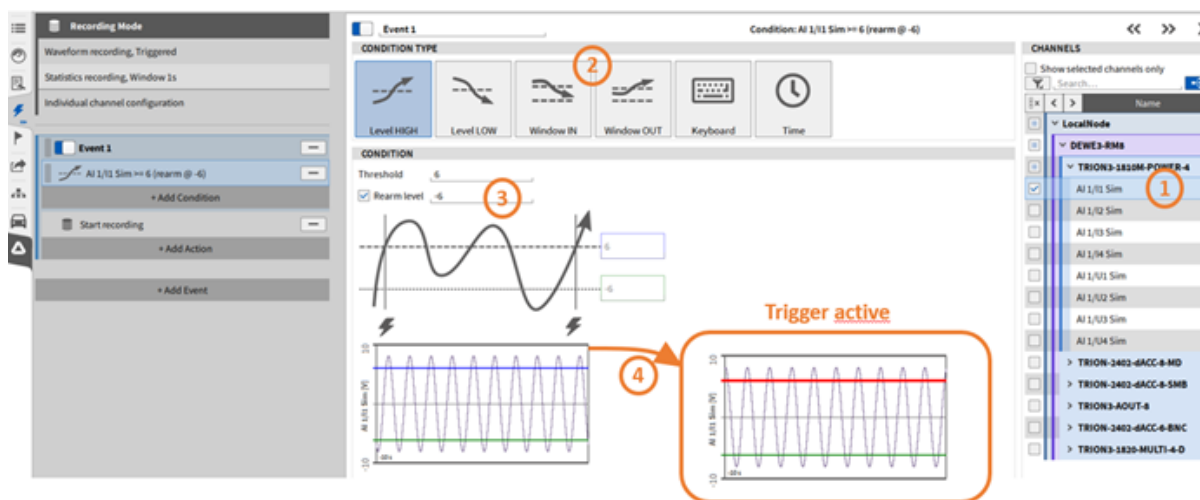
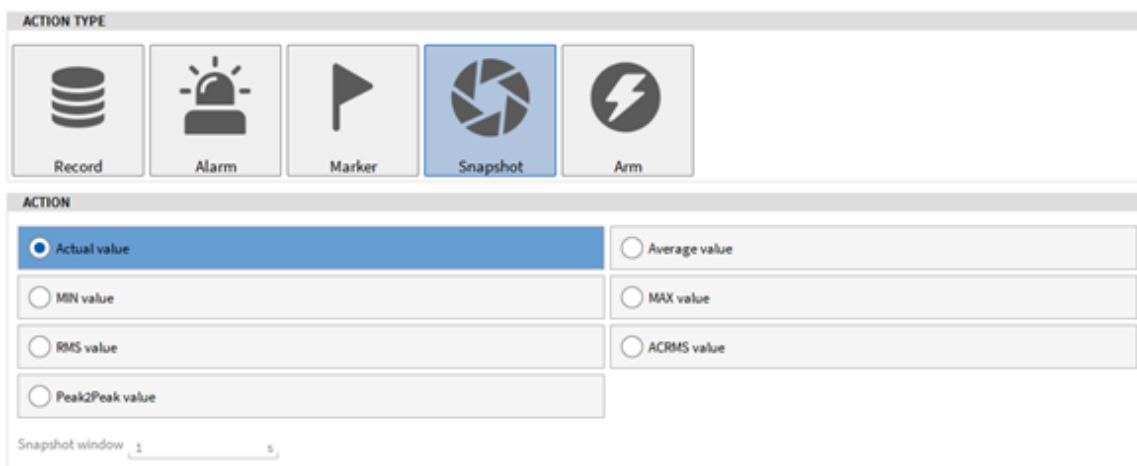
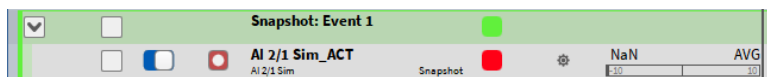

Fig. 9.6: Define an Event Condition and Trigger on *Level HIGH*
Fig. 9.20: Trigger - Snapshot Action
Fig. 9.21: Snapshot channel in the Channel List
The channel to be triggered on can be selected from the channel list on the right screen side (see ① in Fig. 9.6). After selecting the channel, a preview window is displayed (see ④ in Fig. 9.6). The measuring range displayed in the preview window is the set measuring range of the channel to be triggered. The preview window also contains the set threshold and rearm level. As soon as the threshold value is exceeded and the trigger is active, the line for the threshold value in the preview window changes color from blue to red. The user can select between six different event conditions (see ② in Fig. 9.6):
- **Level HIGH:** Activate Event if selected signal exceeds defined Threshold. A *Rearm Level* that must be passed before the trigger is activated again can optionally be defined (see ③ in Fig. 9.6).
The Snapshot action can be used to query the Actual Value, Average, MIN, MAX, RMS, ACRMS or Peak2Peak value of one or several channels that may be selected on the right-hand side of the menu (see ① in Fig. 9.6) and copy this value to a new channel. This channel is added to the Channel List and can be found in the *Snapshot: Event x* section (see Fig. 9.21). If a statistical value is selected, the calculation time interval can be defined in the *Snapshot window* input field (see Fig. 9.20). The time interval is applied prior to the activation of the event.